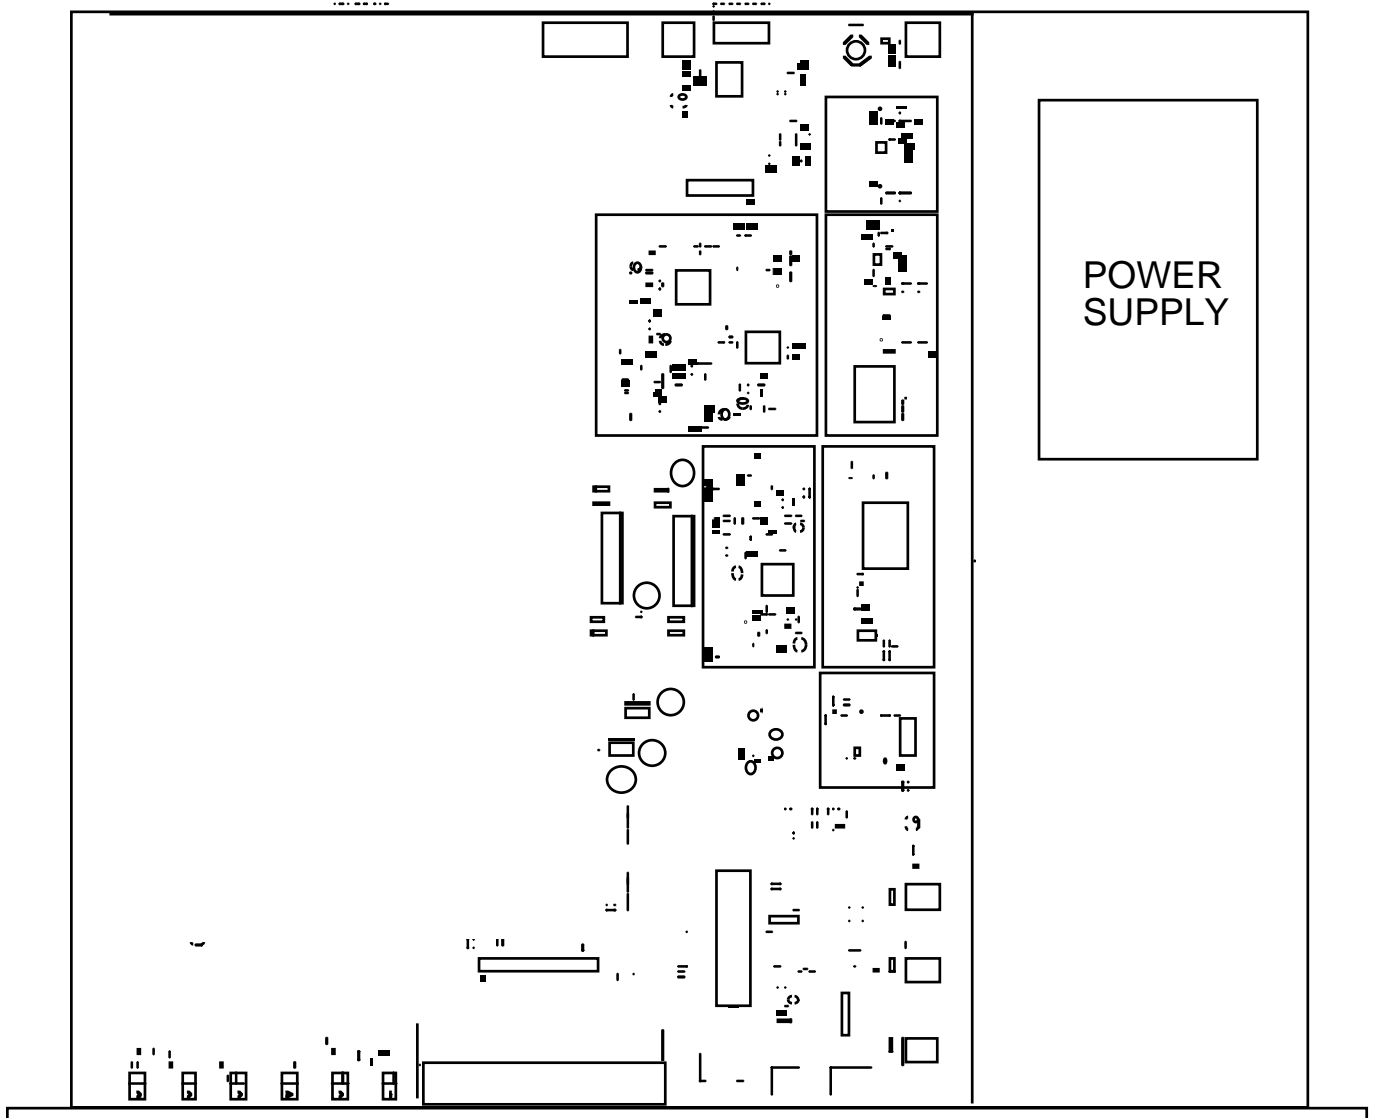

FIGURE 2.1 2083-2813 Mechanical Assembly
2.1 Mechanical - The 2083-2813 consists of one RF/Controller PCB housed in a 1 RU (1 3/4 inch high) by 16 inch deep chassis. A switching, ± 12 , +24, +5 VDC power supply provides power for the assemblies. The 2083-2813 can be secured to a rack using the 4 holes on the front panel. Figure 2.1 shows how the 2083-2813 is assembled.